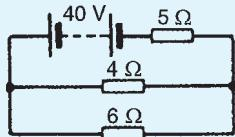

Figure 13.50
2. Use Thévenin's theorem to find the current flowing in the 6Ω resistor shown in Fig. 13.50 and the power dissipated in the 4Ω resistor.